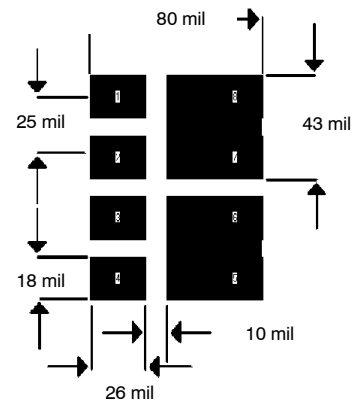

FIGURE 2. Footprint With Copper Spreading
The pad pattern with copper spreading shown in Figure 2 improves the thermal area of the drain connections (pins 5 and 6, pins 7 and 8) while remaining within the confines of the basic footprint. The drain copper area is 0.0019 sq. in. or 1.22 sq. mm. This will assist the power dissipation path away from the device (through the copper leadframe) and into the board and exterior chassis (if applicable) for the dual device. The addition of a further copper area and/or the addition of vias to other board layers will enhance the performance still further. An example of this method is implemented on the Vishay Siliconix Evaluation Board described in the next section (Figure 3).
1) Minimum recommended pad pattern (see Figure 2) on the evaluation board size of 0.5 in x 0.6 in.	185°C/W